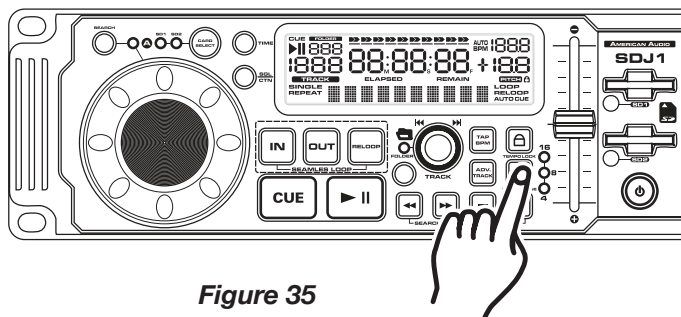

Figure 35
Using the Pitch Slider Percentage Selector (14): You may choose a pitch operating range at any time. To change the operating range be sure the pitch function is turned on, see figure 35. The pitch percentage can be changed between $\pm 4\%$, $\pm 8\%$, and $\pm 16\%$. 4% will allow the least amount of pitch manipulation and 16% will allow the most amount of pitch manipulation. To adjust the different values, press the **PITCH PERCENTAGE BUTTON (14)** for 2 seconds to change the percentage, until your desired percentage is reached.